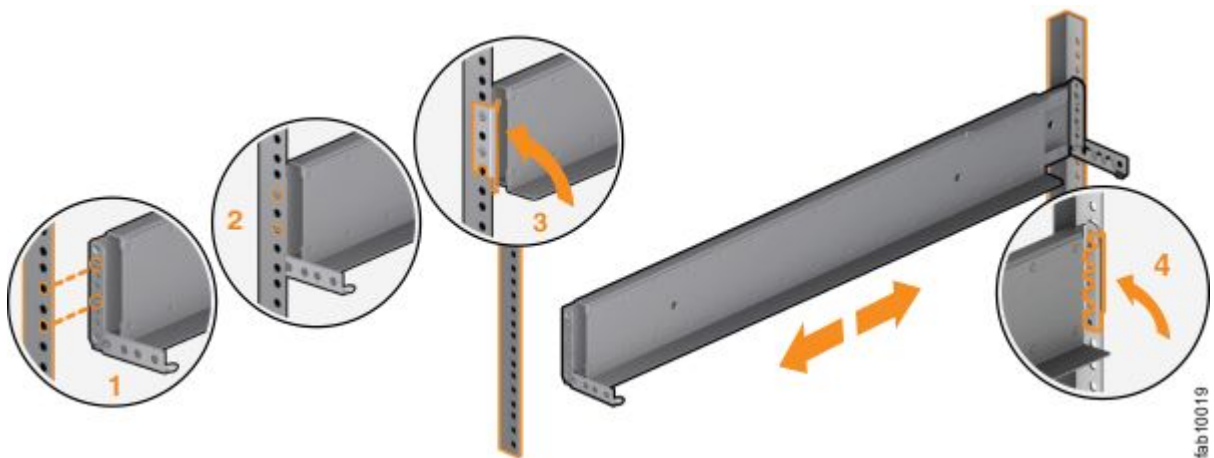

Figure 11. Closing the hinge brackets
- Step 8. Close the rear hinge bracket to secure the rail to the rack cabinet flange. (See Figure 11 “Closing the hinge brackets” on page 14.)
- Step 10. Close the front hinge bracket to secure the rail to the rack cabinet flange. (See Figure 11 “Closing the hinge brackets” on page 14.)